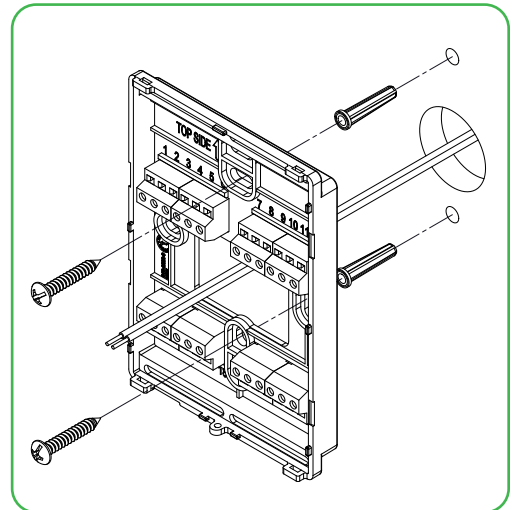

Figure 2 Install the base
5. Align the base and mark the location of the two mounting holes on the wall (Figure 2).